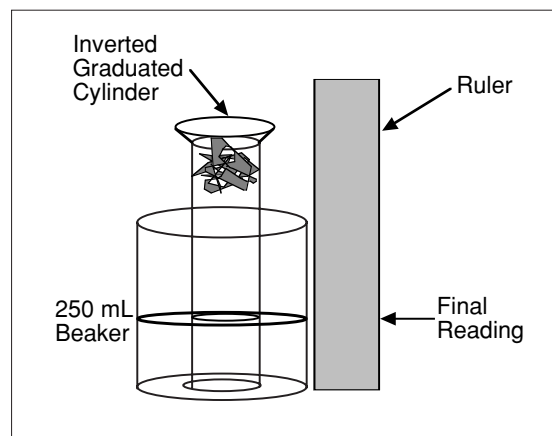

Figure 2. Taking the final reading.
7. When the reaction is completed (no more change in water level since your last leveling addition of water), measure the height of the present water level in the graduate *above the bench top*. In other words, get the height of the water level above the start of the ruler. Place the ruler on the bench top outside of the beaker and sight from the final water level in the beaker over to the ruler's marks (which will exactly match the height inside the graduate if you made your last addition carefully—See Figure 2.) Record this reading in millimeters on the report sheet in the appropriate place. The difference between the initial and final readings will therefore be the distance that the water has travelled up into the graduated cylinder during the whole reaction time.